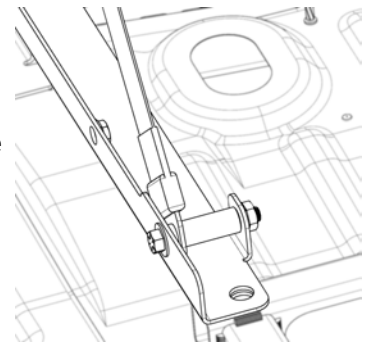

Figure 19
2. Locate the [3X245] 7/16-20X3" grade 8 hex bolt, the [3X113] 7/16" washer, the short spacer [3TRS472055], and the long spacer [3TRS472056]. Use these components to loosely attach the OSB Seat Belt lower mounting tab to the Lower Seat Bracket [3TRS472050] already installed in the vehicle (Fig 19).